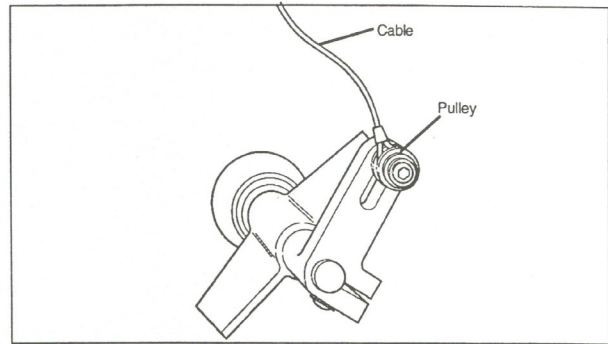

Figure 7 — Lower quill and loop cable over pulley on lower crank handle assembly.
- 13) Unlock the quill lock and lower quill in order to loop the other cable end over the lower crank handle pulley (see figure 7).